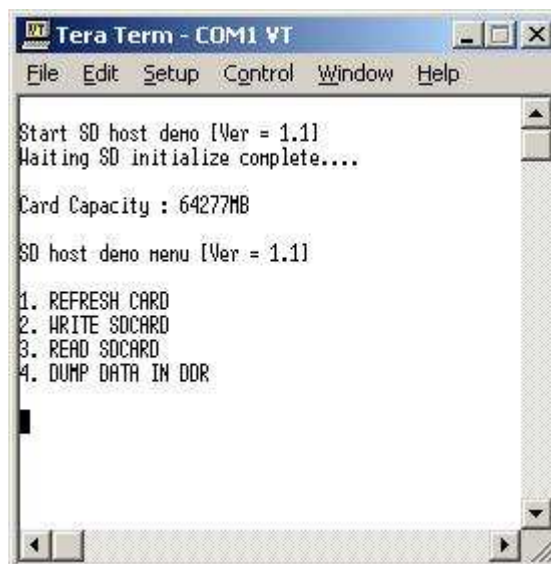

Figure 5 Main Menu of SD Raw format demo
- At serial console on PC, main menu will be displayed as shown in Figure 5. Then, user can execute each command operation. Please check serial-cable connection if this menu is not displayed on console.